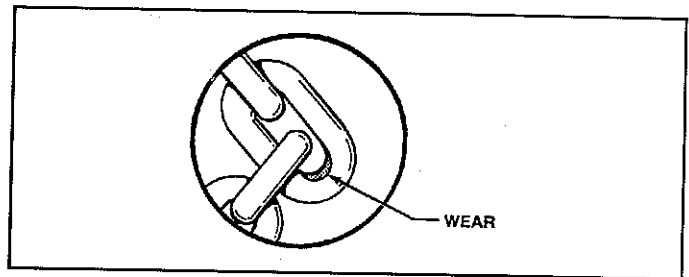
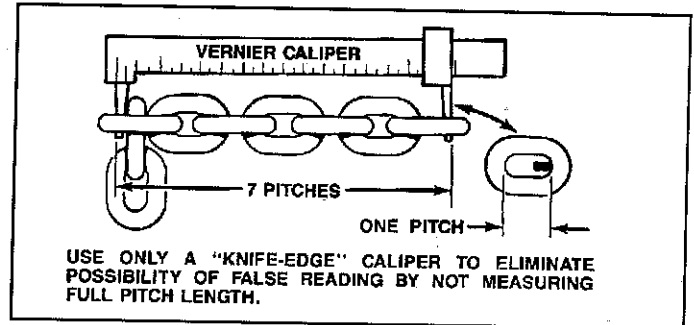

Figure 5-1. Check Chain Wear at Bearing Surfaces Between Links.
Figure 5-2. Checking Coil Load Chain Using Vernier Caliper.
(1) Operate chain hoist under load and observe operation of chain over load sprocket in both directions of chain travel. Chain should feed smoothly into and away from the sprocket. If chain binds, jumps or is noisy, first see that it is clean, properly lubricated, and free of twists. If trouble persists, inspect chain and mating parts for wear, distortion or other damage.
(2) Clean chain for inspection. Examine visually for gouges, nicks, weld spatter, corrosion or distorted links. Slacken chain and check bearing surfaces between links for wear (see Figure 5-1). Case hardness of chain is about .015" deep. Chain must be replaced before the case is worn through. Also check for elongation using a vernier caliper (see Figure 5-2). The chain should be gauged throughout its entire length. The maximum gauge length allowable over 7 pitches is 8-1/16 inches. If chain exceeds this dimension, it must be replaced. Chain with excessively pitted, corroded, nicked, gouged, twisted or worn links should be replaced using factory approved chain. Never weld or attempt to repair coil chain.
(1) Operate unloaded hand chain hoist by overhauling hand chain at slow rate and then at a rapid rate observing operation of chain over hand chain wheel. Follow the instructions outlined in Section 5-2.a. for inspecting hand chain. Hand chain is not case hardened. Check for elongation using a vernier caliper over 7 pitches as shown in Figure 5-2. The maximum gauge length is 7-5/8 inches over the 7 pitches. If the chain exceeds this dimension it must be replaced.